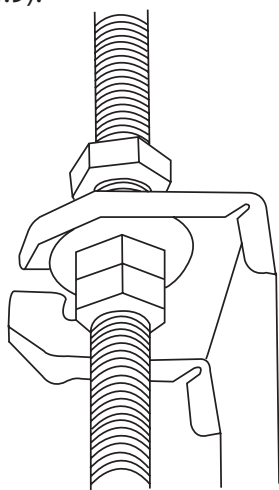

Fig. 4.9
8. Mount the indoor unit with at least two people to lift and secure it. Insert suspension bolts into the unit's hanging holes. Fasten them using the washers and nuts provided. (See Fig. 4.9).